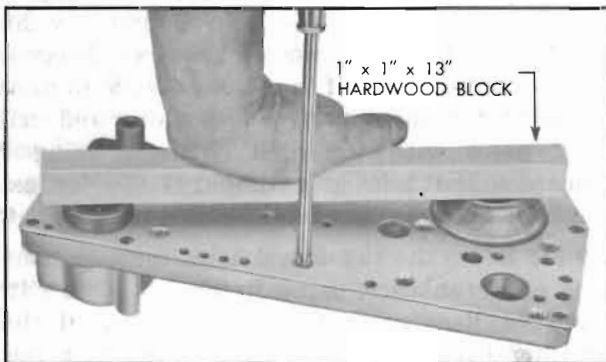

Figure 5-61—Removing Servo Body Spacer Plate
2. Remove servo body spacer plate attaching screw at reverse servo which is in line with the low servo then place a 1"x1"x13" wooden block across the low and reverse servo spring seats. See figure 5-61.
4. Install a *new* spacer plate gasket and place spacer plate in position over spring seats. Place a 1"x1"x13" wooden block across spring seats to compress the springs while installing the spacer plate screws (fig. 5-61). Tighten screws uniformly to avoid distorting spacer plate.